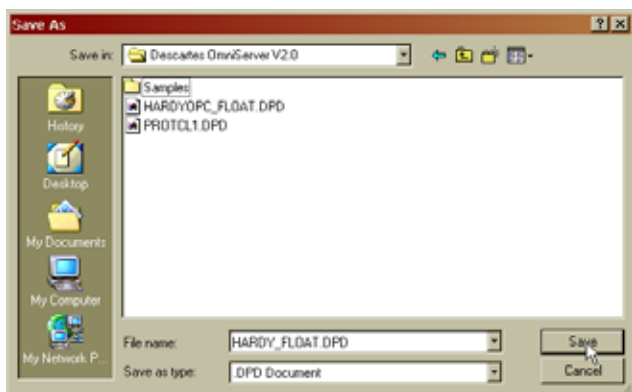

FIG. 221: OMNISERVER FOLDER SAVING DPD FILE
Step 12. Double click on Descartes Omniserver V2.0. The Descartes Omniserver folder opens. (See Fig. 221)